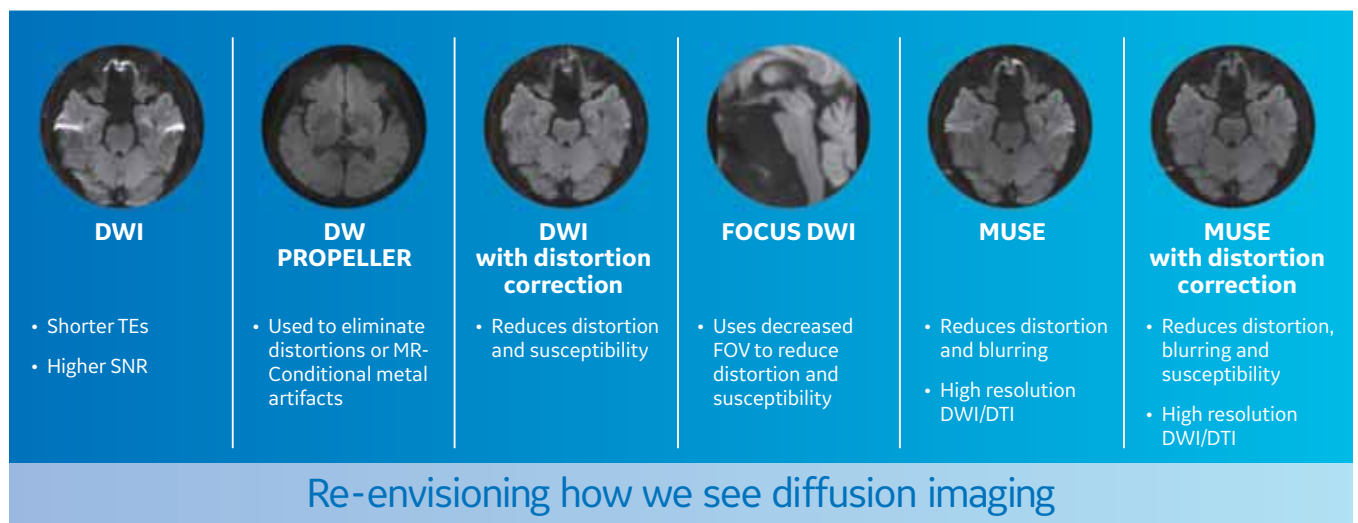

Figure 1. The GE Healthcare MR diffusion evolution.
Figure 1. Free-breathing abdominal/pancreas imaging with Auto Navigator. (A) Axial T2 SSFSE, (B) Axial T2 FS SSFSE, (C) Axial LAVA pre-contrast, (D) Coronal LAVA pre-contrast, (E) Coronal T2 SSFSE, (F) Axial DWI b50, (G) Axial LAVA post-contrast, (H) Axial DWI b800 and (I) Axial LAVA delayed enhancement and (J) Coronal LAVA post-contrast.